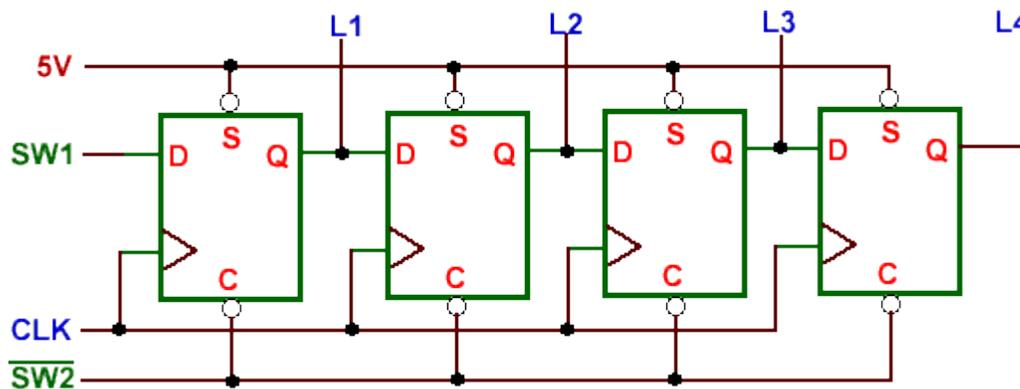

Figure 1. 4-bit shift register.
A shift register is an n-bit register with provision for shifting its stored data by one position at each clock pulse. The logical configuration of a shift register consists of a chain of flip-flops connected in cascade, with the output of one flip-flop connected to the input of the next flip-flop. All flip-flops have a common clock. In Fig. 1, a positive pulse at CLK \uparrow will cause the contents of each flipflop to be shifted one position to the right, bringing the serial input bit (SW1) in at the left and pushing the bit stored in L4 out at the right. That bit is lost unless it is saved externally. Although Fig. 1 shows a shift-right register, the same register can obviously be used for left shifts simply by reversing the sense of the bits. Most shift registers have provision for shifting only in one direction, but some have a control input that allows either left or right shifting to be specified at each clock.
Use two 7474 dual flip-flop chips to connect a serial-in, parallel-out shift register as shown in Fig. 1. Draw the wiring diagram in your lab notebook (refer to the IC specifications document for pin numbers or use ExpressSCH). Connect L1–L4 to four LEDs (from the LED bar graph), SW1 and SW2 to switches, and CLK to a pulser. Implement your design on your breadboard. Test circuit behavior as follows.
that when CLR is active (L), the other control inputs have no effect. And when CLR is not active (H) but SHIFT is active (H), a negative clock pulse \downarrow shifts the serial input SER into QA, pushing QD out at the right. This experiment uses only these two conditions; i.e. lines 1 and 3 of the function table (so LOAD and parallel inputs ABCD are ignored.). Here you will implement the circuit in Figure 1 using the 74179. Note that outputs L1...L4 appear here as QA...QD. Connect SER and CLR to switches, SHIFT to Vcc (it will not change), and CLK to a pulser. Also, connect outputs QA...QD to LEDs.
Go through the following steps to test your circuit. (Note: SW2 in Fig.1 is re-labeled SW1 below.)